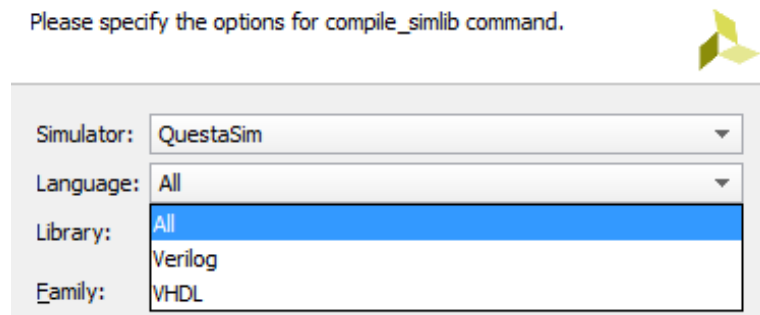

Figure 8-4: Language Selection
- **Language:** Compiles libraries for the specified language. If this option is not specified, then the language is set to correspond with the selected simulator (above). For multi-language simulators, both Verilog and VHDL libraries are compiled. See Figure 8-4.